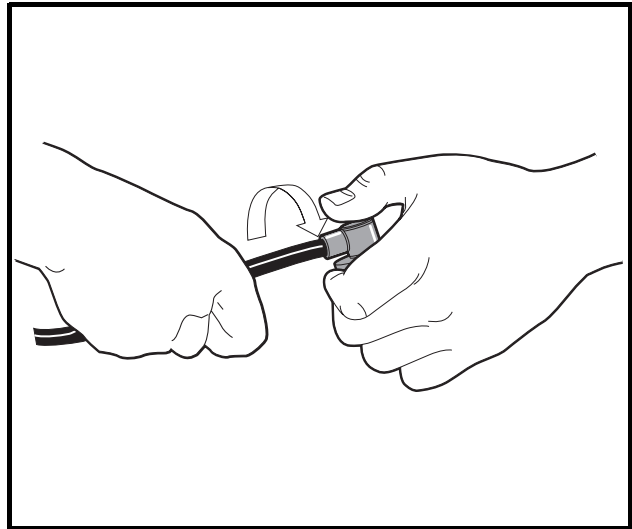

Figure 11-21 Spark Plug Cap Removal
- 4.2. Remove the cap from the wire by turning the cap counterclockwise three or four revolutions while gently pulling it off the wire (**Figure 11-21, Page 11-23**).